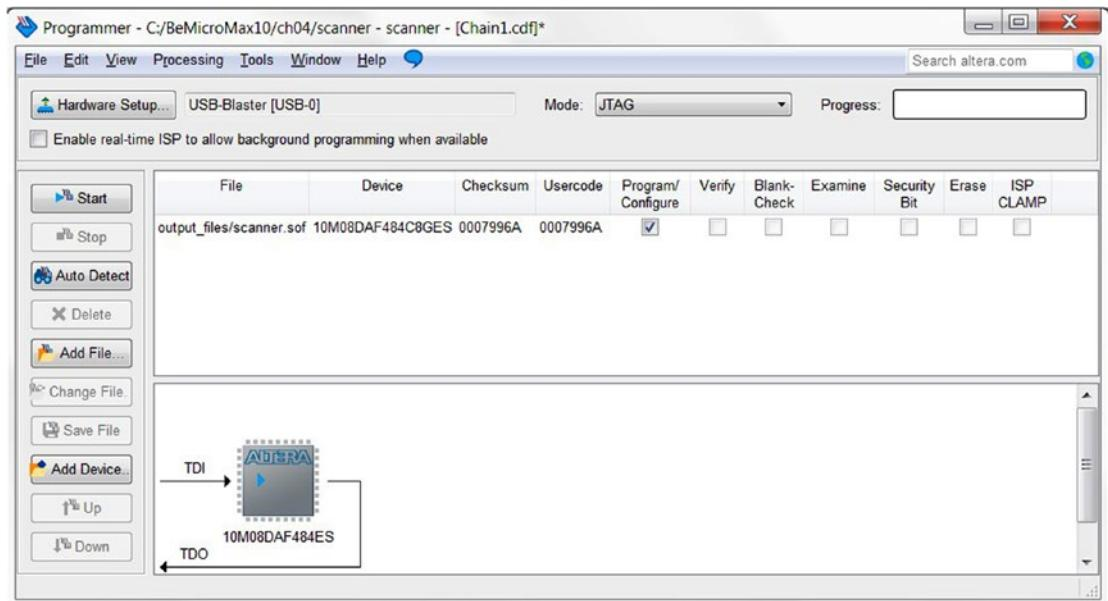

Figure 4-60. Programmer—Setting
5. All of the settings should look like Figure 4-60. When you’re sure you want to proceed, click the **Start** button and wait while it writes the bitstream to the MAX10’s SRAM. The LED (D11) on the board will glow green while this is in progress. Don’t disconnect the board while this is in progress or you risk damaging the FPGA.